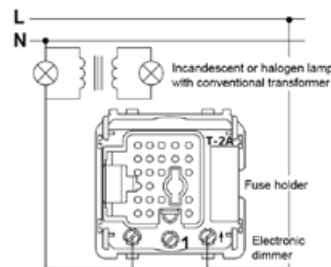

Figure 1
2. Connect the dimmer based on the wiring scheme (Figs. 1 and 2).
The electrical wiring for these devices is performed according to the wiring diagram shown in Figure 1.
The incoming arrow indicates the phase/line wire of the installation and the outgoing arrow indicates the wiring towards the receptor/load according to Figure 1.
If the device is to be installed individually, follow the instructions indicated in Figure 1.